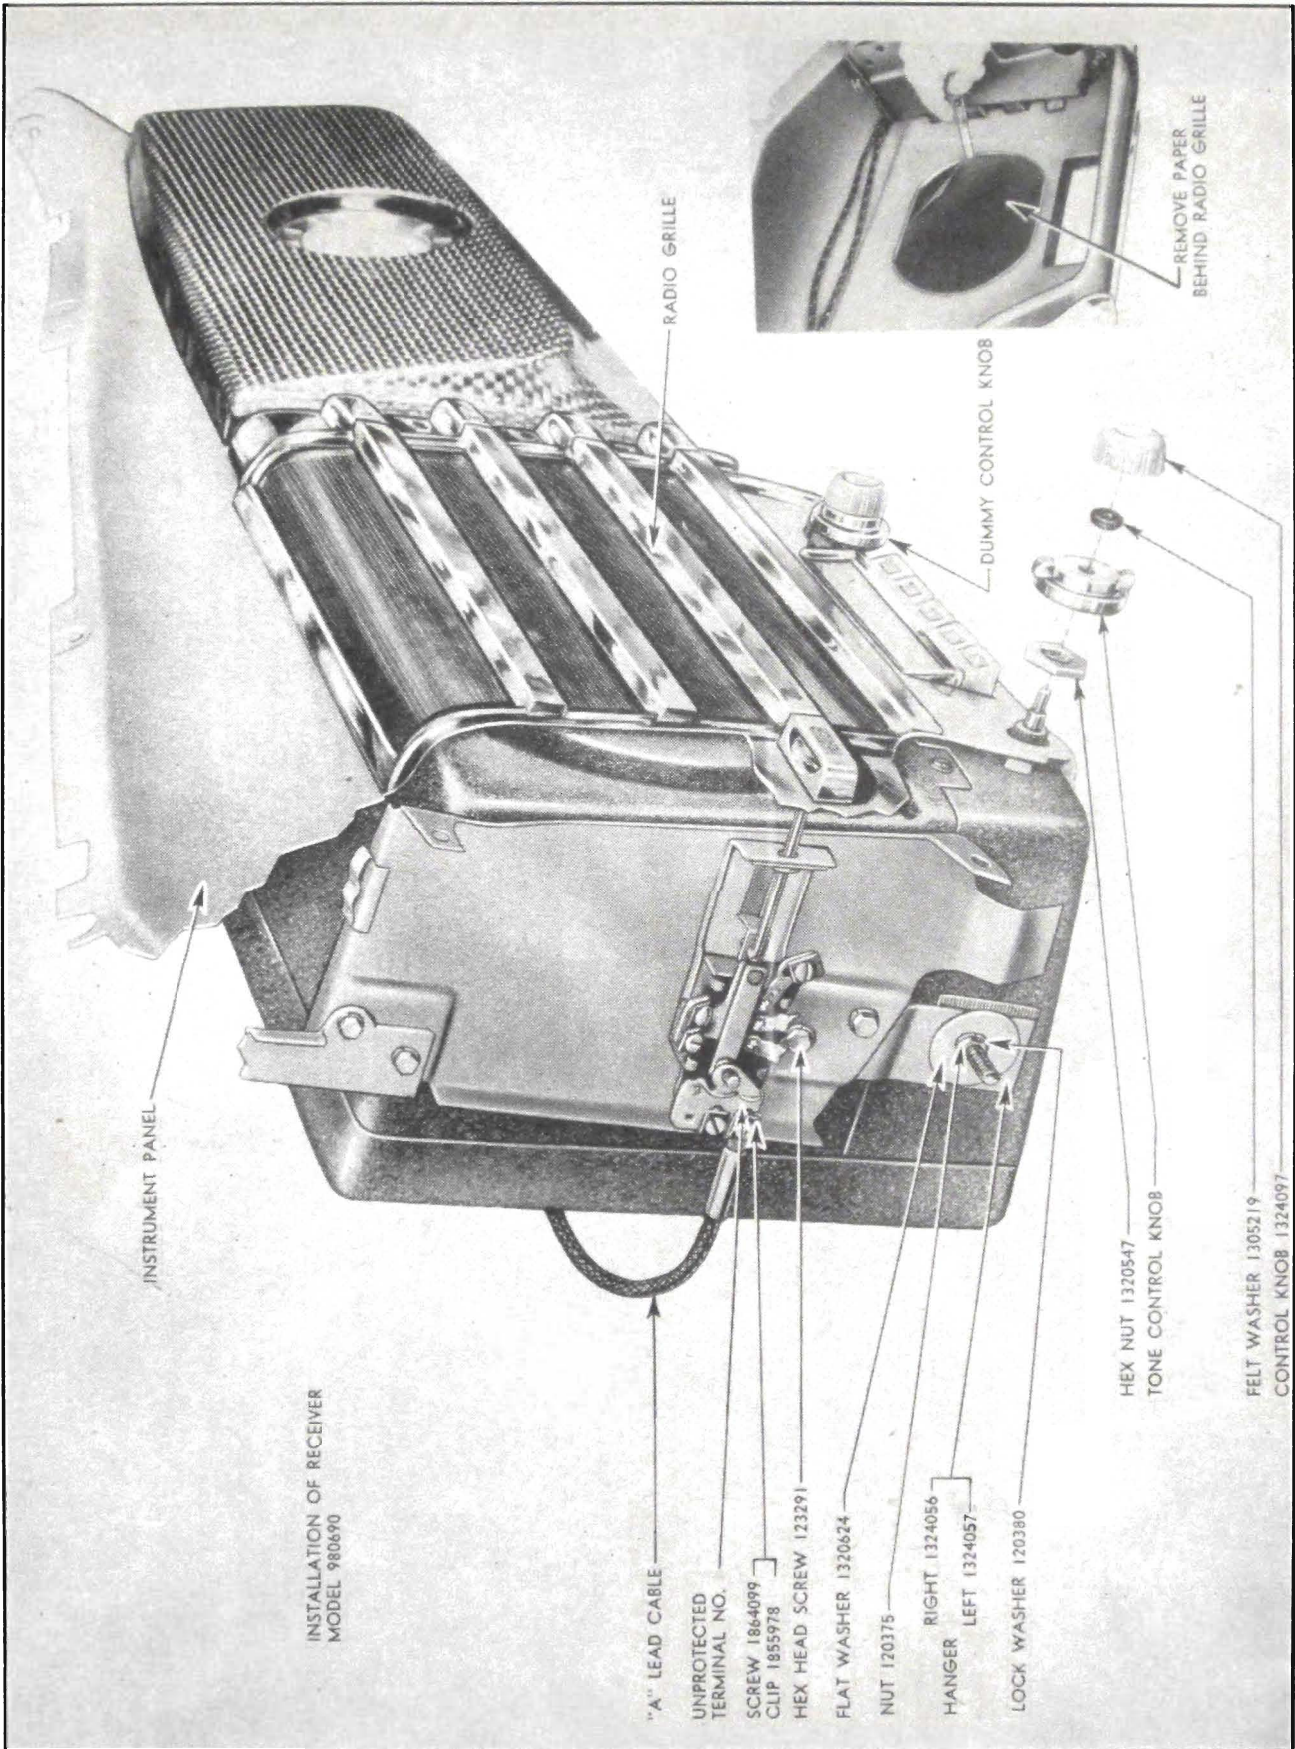
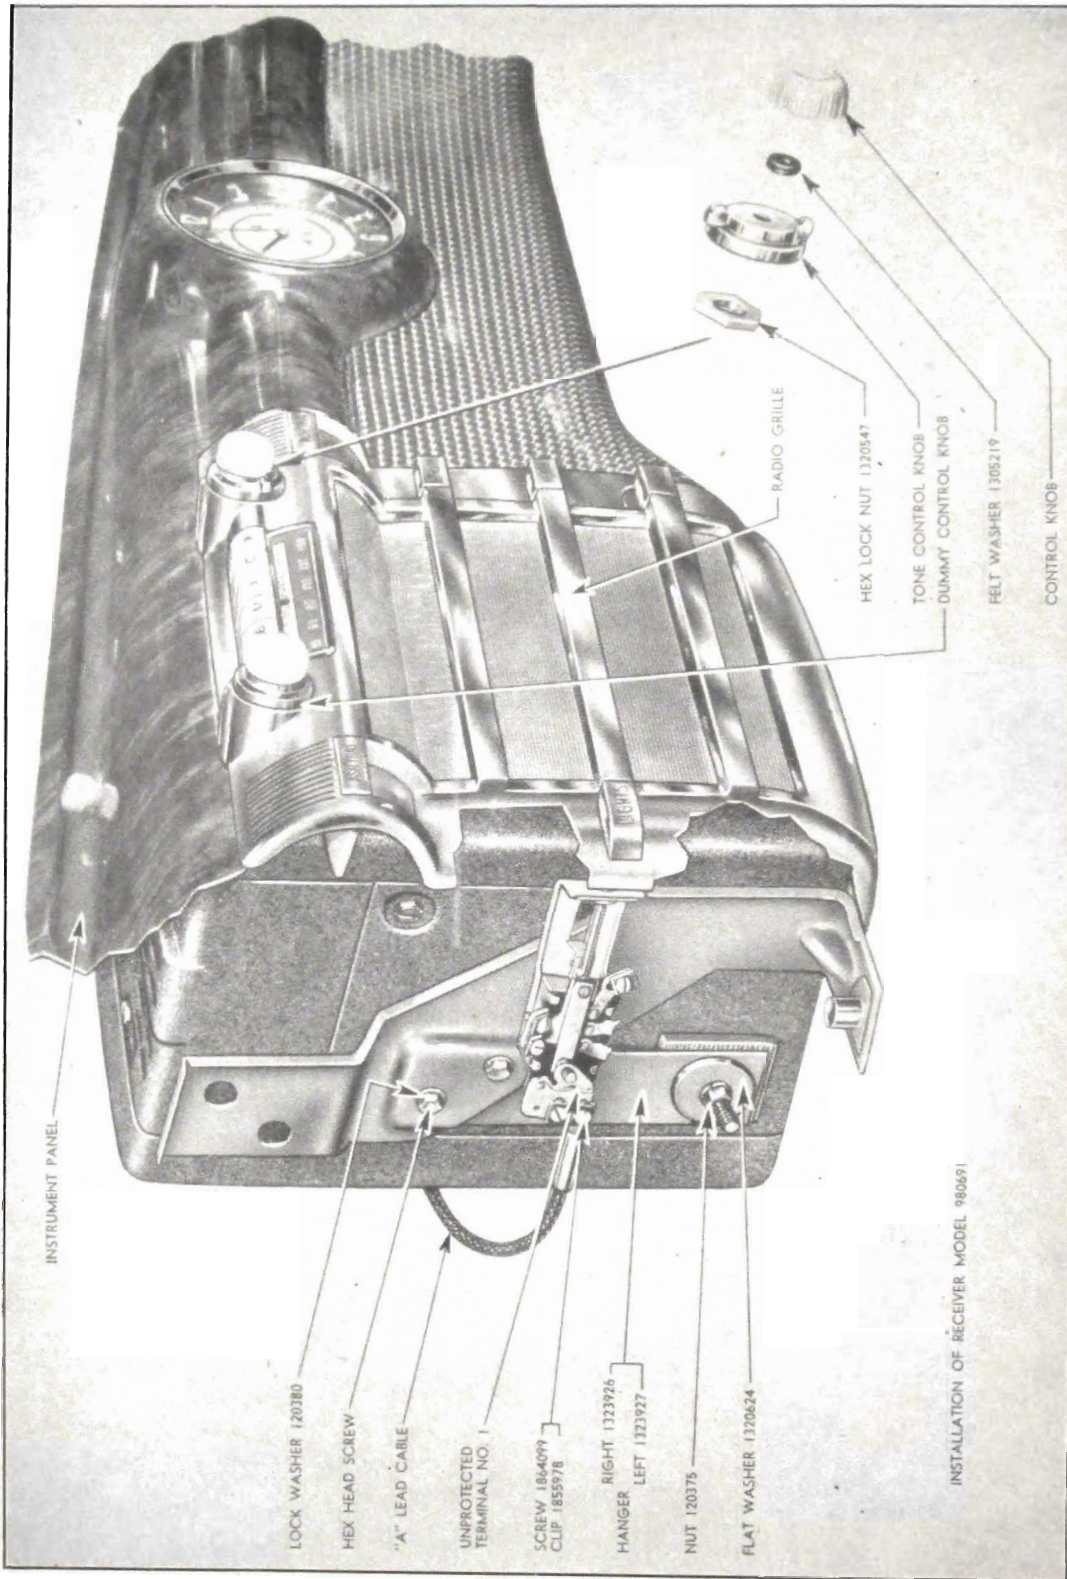

Fig. 12-109. Proper Method of Attaching Radio to Instrument Panel—Series 40-60-90
Fig. 12-110. Proper Method of Installing Radio to Instrument Panel—Series 50-70
- **NOTE:** Remove paper behind radio grille before installing radio. (See Fig. 12-109.) This is very essential and if not done will result in very unsatisfactory radio performance. Make certain that all paper which is not securely cemented to instrument panel is removed. Loose edges will buzz when radio is played.
Figs. 12-109 and 12-110 illustrate the proper relationship of the parts used in assembling the radio hangers and radio to the instrument panel. While Figs. 12-109 and 12-110 show only the left side, the right side is identical with the exception of the wiring.
- For correct relationship of control knobs, "A" lead connection, and other attaching parts, see Fig. 12-109 for Series 40-60-90, and Fig. 12-110 for Series 50-70. The "A" lead is connected to one of the end terminals of the light switch as shown. Be sure the No. 1 (unprotected) terminal is used.